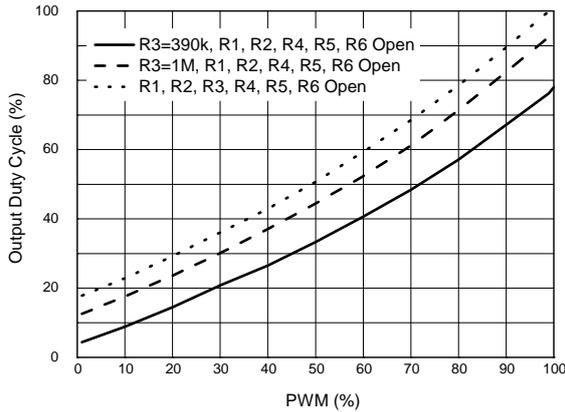

Figure 16
2. Adding R3 can decrease maximum output PWM duty (see Figure 16).